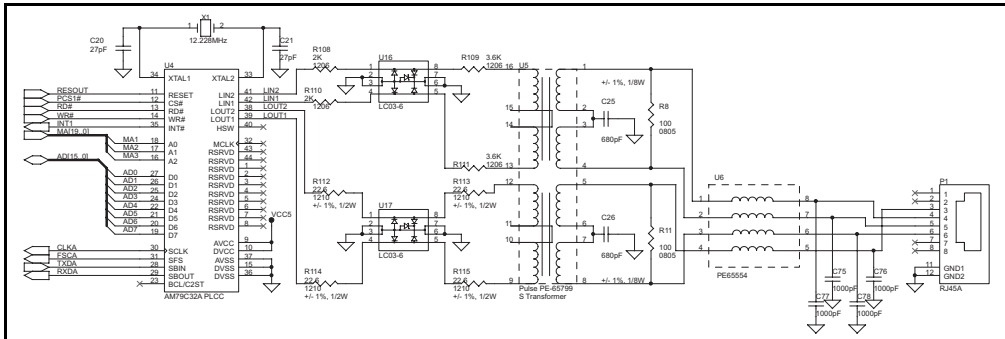

Figure 2-5. ISDN TA S/T Interface
The Am79C32A IDC (ISDN data controller) circuit is used to provide the four-wire 2B+D S/T interface. This device has a general circuit interface (GCI) or IOM-2 serial microprocessor interface, which is used to transfer B channel data to and from the Am186CC microcontroller's integrated HDLC controller. The Am186CC communications controller-based ISDN TA reference design provides a full-duplex path between the terminal equipment (TE) and the network termination (NT) device. The controller processes the ISDN basic rate interface (BRI) bit stream, which consists of two 64-kbps B channels and a single 16-kbps D channel. The schematic for the S/T interface block is shown in Figure 2-5.